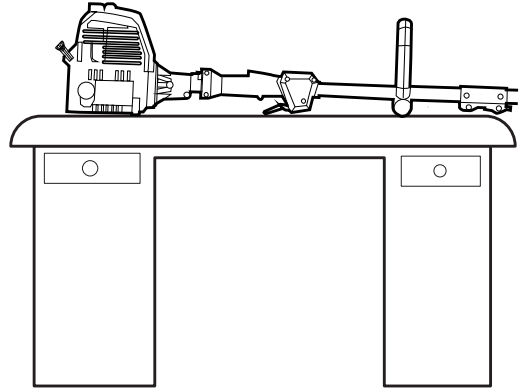

Fig. 21
2. Set the unit on a flat, level surface, such as a workbench or table. The cutting head shield should hang over the edge so that the engine is level (Fig. 21).